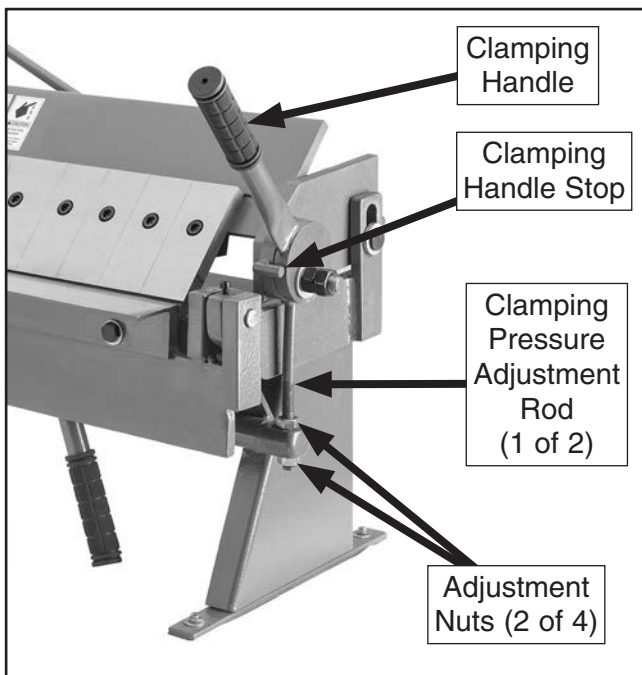

Figure 14. Locations of clamping components.
Clamping pressure must be properly adjusted for different workpiece thicknesses. The ideal pressure will have medium resistance at the clamping handles, and will lock the workpiece into position easily—much like a pair of Vice-Grips®. Pressure is adjusted by rotating the adjustment nuts on the clamping pressure adjustment rods (see **Figure 14**). These are located on both ends of the pan and box brake.
2. Loosen adjustment nuts (see **Figure 14**) and turn both sets up or down until clamping handles are in 10 and 2 o'clock position when clamping fingers just touch workpiece.
Note: *Proper clamping pressure is achieved when the clamping handle "snaps" (or locks) into position against handle stop (see **Figure 14**).*